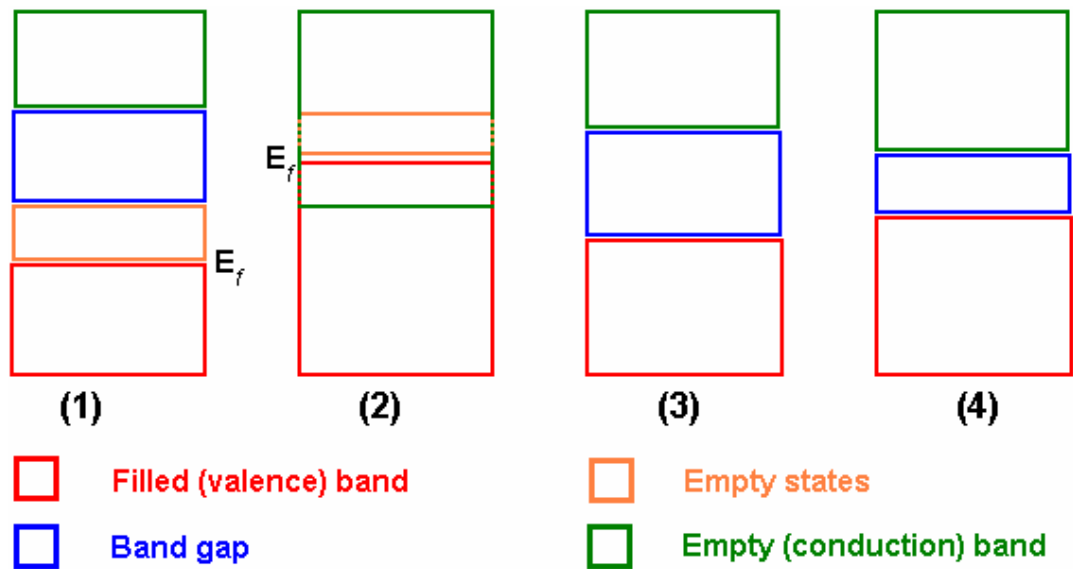

Figure 14-1: Possible electron band structures.
Four different types of band structures are possible at 0 K: (1) Where one outermost band is only partially filled with electrons. The energy corresponding to the highest filled state at 0 K is called the Fermi energy, E_f . (2) There is overlap of an empty band and a filled band. (3) and (4) One filled band (valence band) and an empty band (conduction band) are separated by an energy band gap which lies between them. These are schematically shown in the *figure 14-1*.